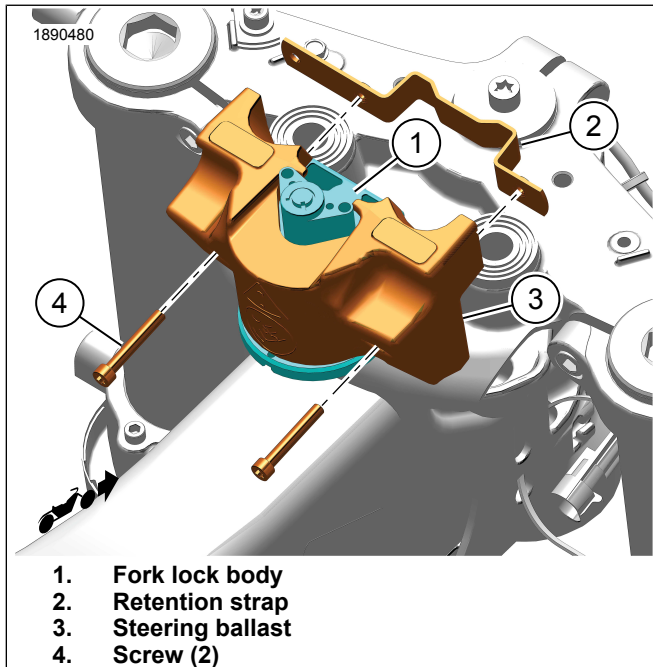

Figure 1. Install Steering Ballast
- See Figure 1. Install steering ballast (3) over fork lock body (1).
- See Figure 1. Install retention strap (2) in front of fork lock body (1).
- Install screws (4). Tighten.